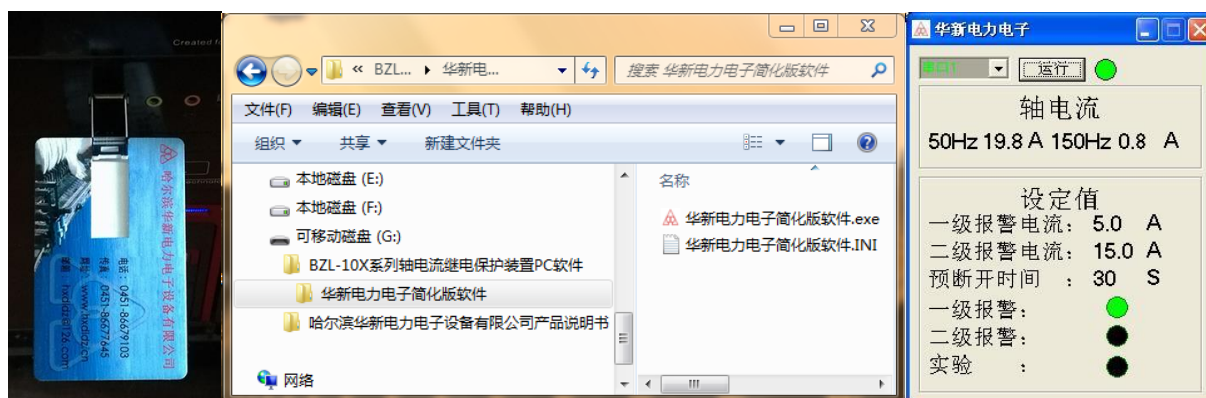

Figure 9
5.2 Driver installation (see Figure 9)